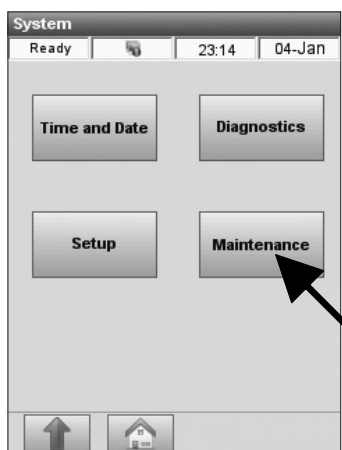

Fig. 3-87 Select Maintenance
1. From the **<Ready>** display, select **<System Manager>** and **<Maintenance>** (Fig. 3-87).